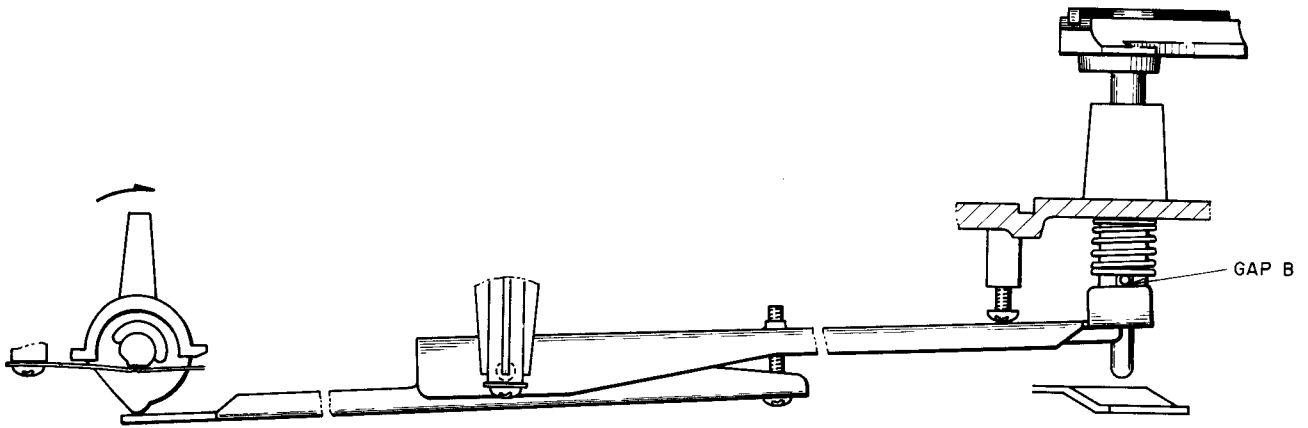

Fig. 10
- tion control at ∇ , adjust screw (b) at exactly the point where the gap (B) between the shaft pin and the elevation lever (A) disappears. (Refer to Fig. 10.)